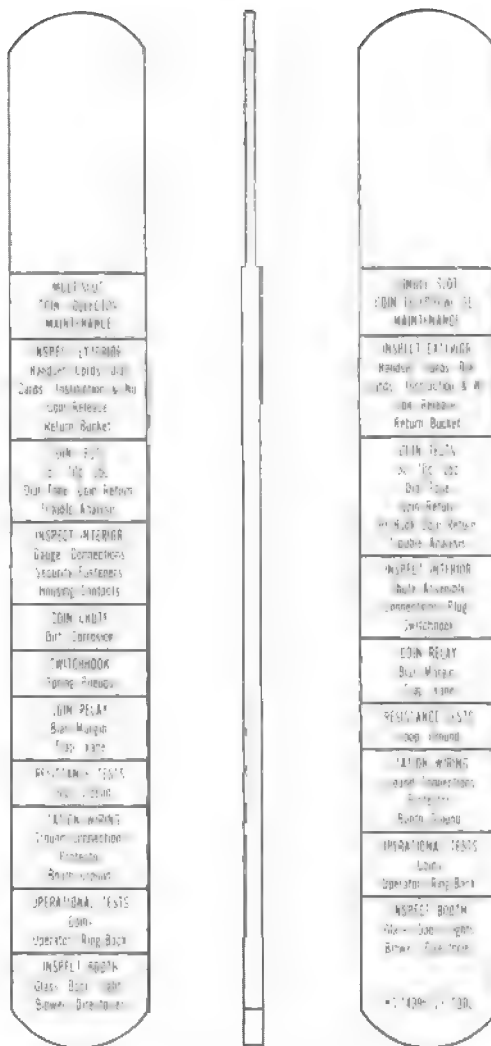

Fig. 22—KS-14995, List 3 Tool
- KS-14995, List 3 Coin Trap and Vane Release Tool (Fig. 22)